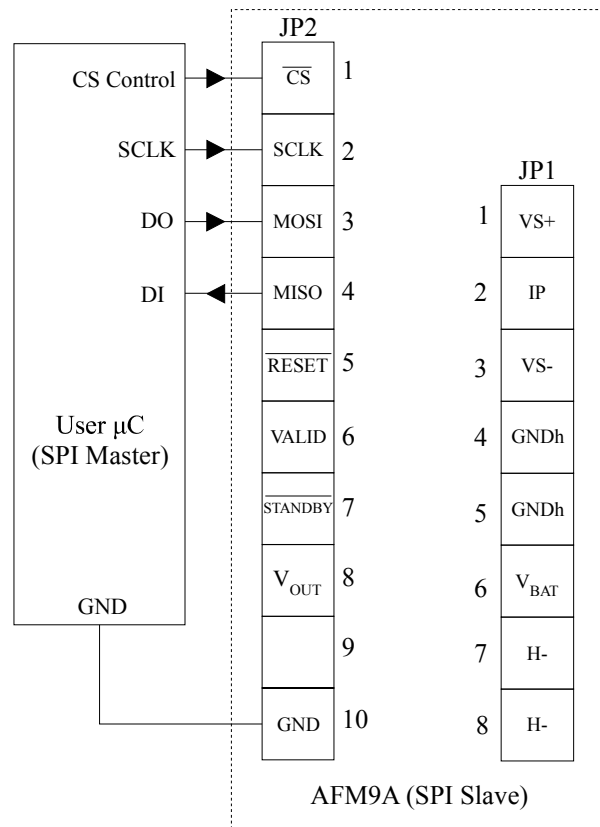

Figure 4. SPI Connections
The AFM9A is connected to a SPI master as shown in Figure 4. The AFM9A operates in SPI slave mode 0 with an alternative implementation of the Slave Select called Chip Select (CS). Table 3 lists how each connection should be configured on the user microcontroller. All signals connected to the AFM9A should adhere to the V_{OH} , V_{OL} , V_{IH} , and V_{IL} values in Section 11.